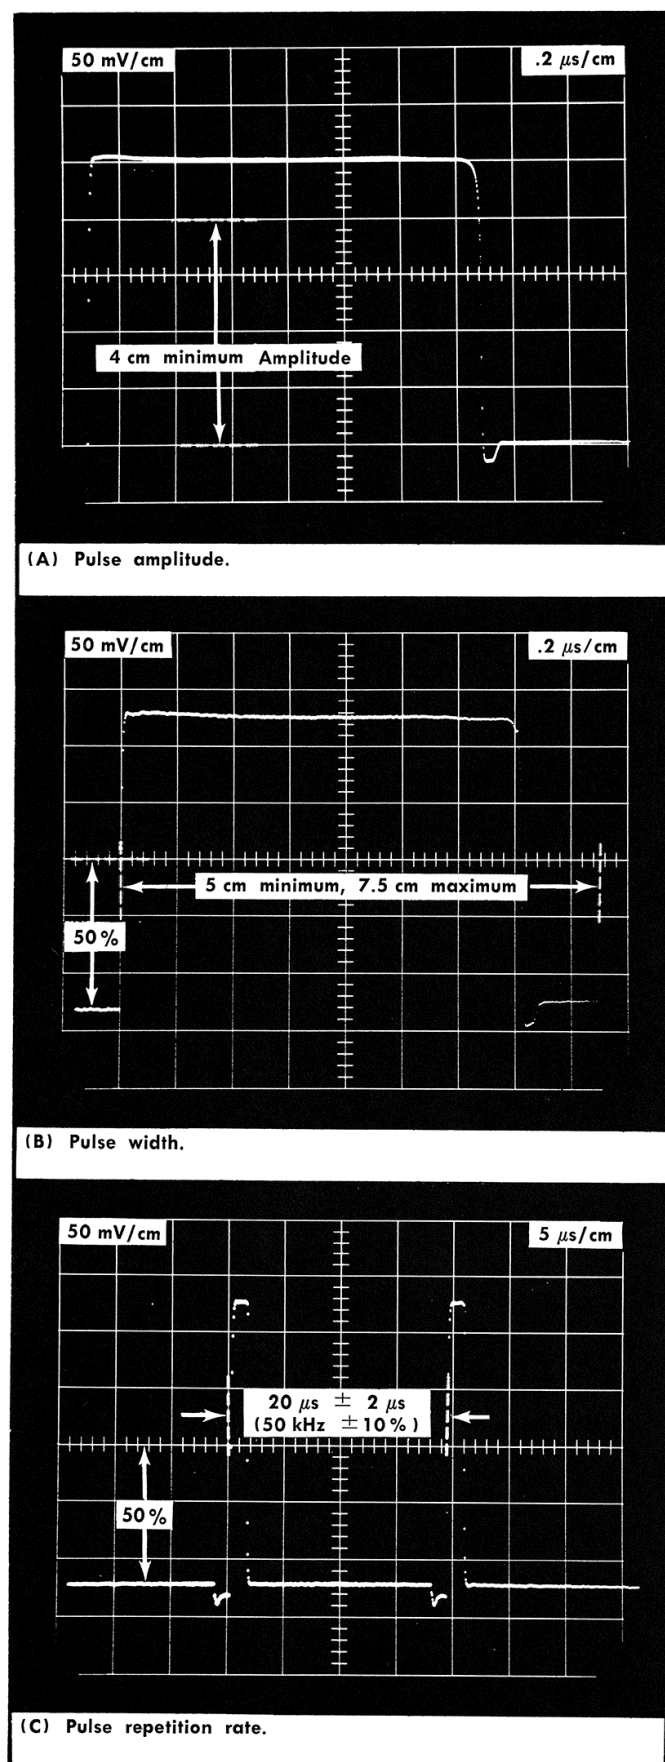

Fig. 5-12. Typical displays used in steps 13, 14 and 15.
- Set the Equivalent Time/cm switch to .5 μ s calibrated, and set the Time Position control to obtain a two-pulse display; see Fig. 5-12. Measure the time between positive-going portions of the pulses.